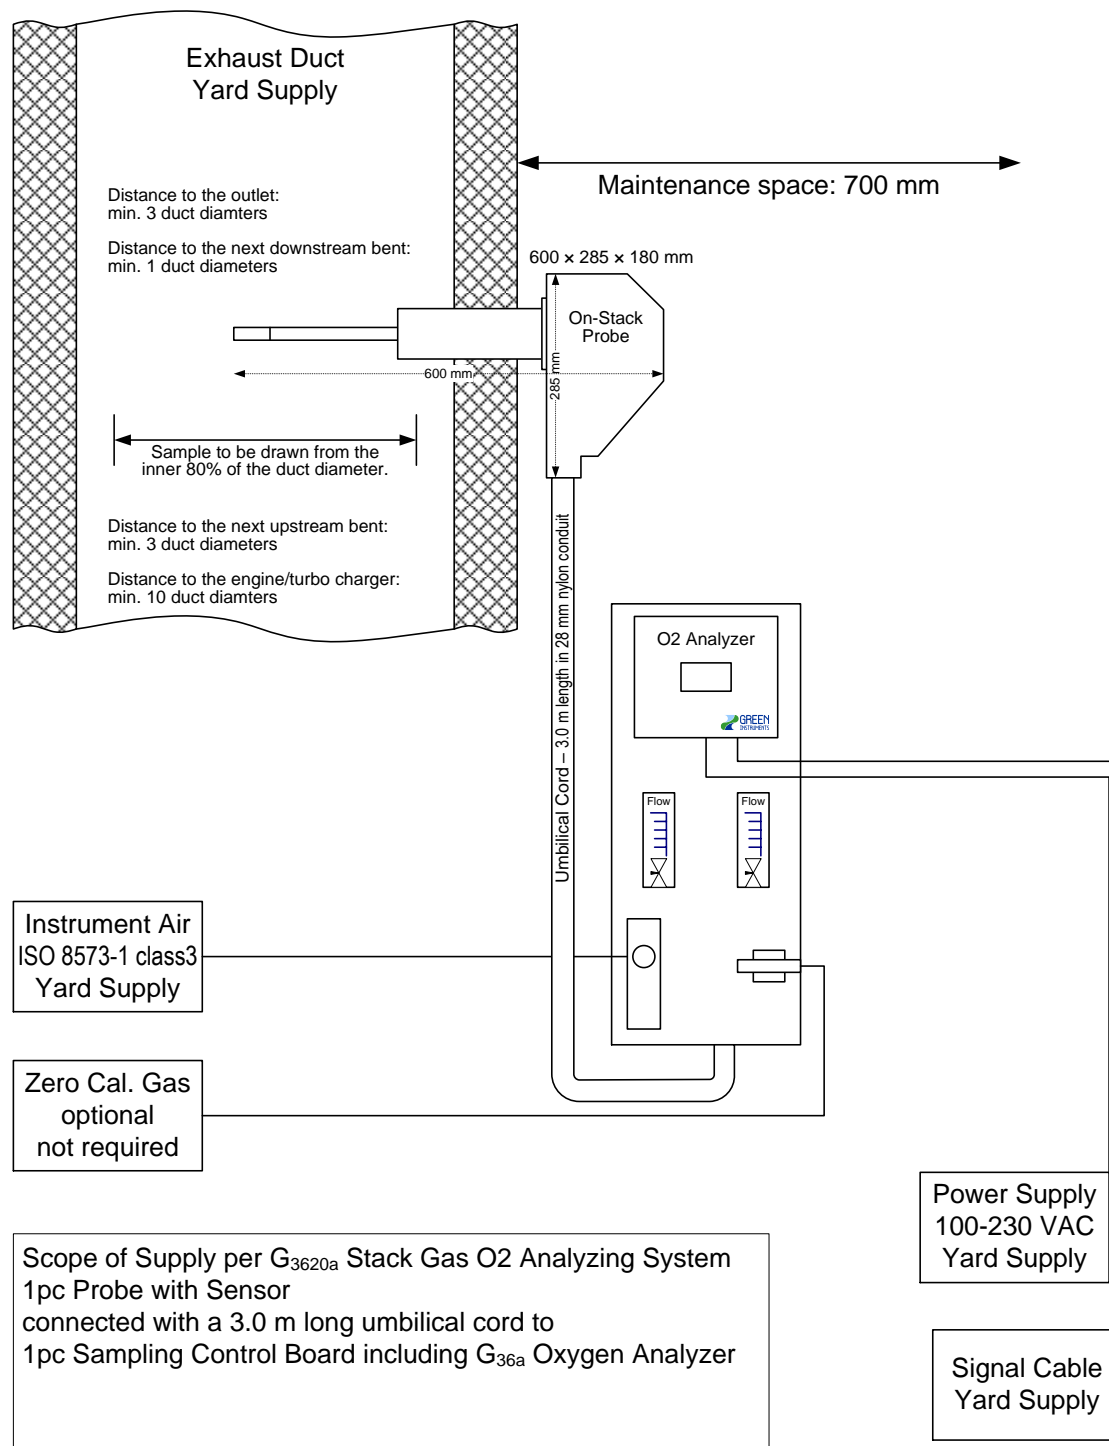

Figure 3-1: Installation Layout of the G3620a with G36a Stand-alone Analyzer
- It is recommended to place the ejector probe as illustrated in Figure 3-1 below. If you find it difficult estimating where to install the ejector probe, please contact Green Instruments A/S for more instructions.
When welding the mounting socket to the stack, make sure that the back plate of the probe is mounted with the sampling hose connection facing down and the probe protection house mounted in a vertical position of the stack. Please see Figure 3-1 and 3-2 for the installation of the ejector probe.